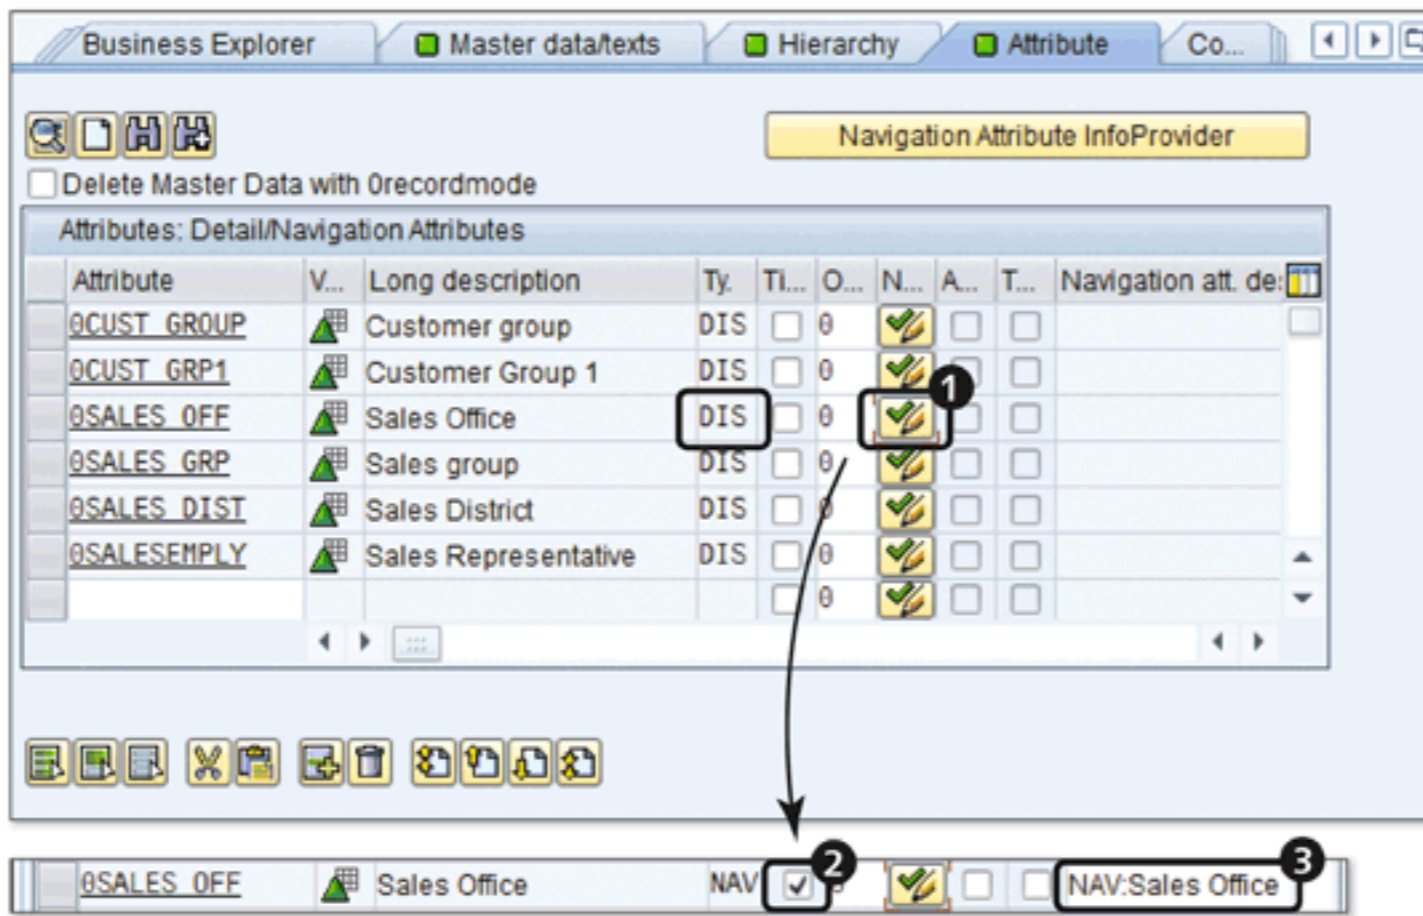

Figure 3.27 Defining Attributes
When you enter your attributes, they are automatically defined as display attributes. To change this, click on the NAVIGATIONAL ATTRIBUTE ON/OFF icon (❶ of Figure 3.27) for the appropriate attribute.
For our case study, we define OSALES_OFF as a navigational attribute. When you assign this definition, SAP NetWeaver BW offers you a field for a description of the navigational attribute (❷ of Figure 3.27); you should always fill this out because it helps query designers distinguish whether the InfoObject is being used is a navigational attribute or a characteristic.